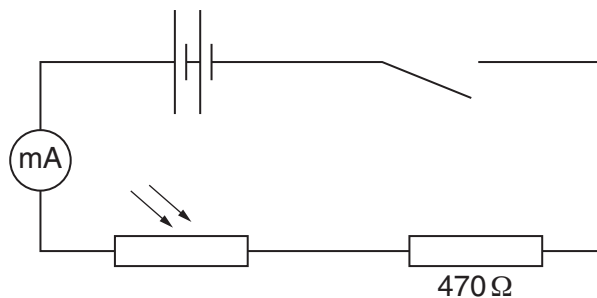

Fig. 3.1
Five connecting leads to enable the Supervisor to connect the circuit shown in Fig. 3.1.
- (i) Supervisors should set up the circuit shown in Fig. 3.1.
- (v) At the changeover, the Supervisor should remove the voltmeter from the circuit, remove the disc from on top of the LDR and check that the circuit is still connected as in Fig. 3.1.